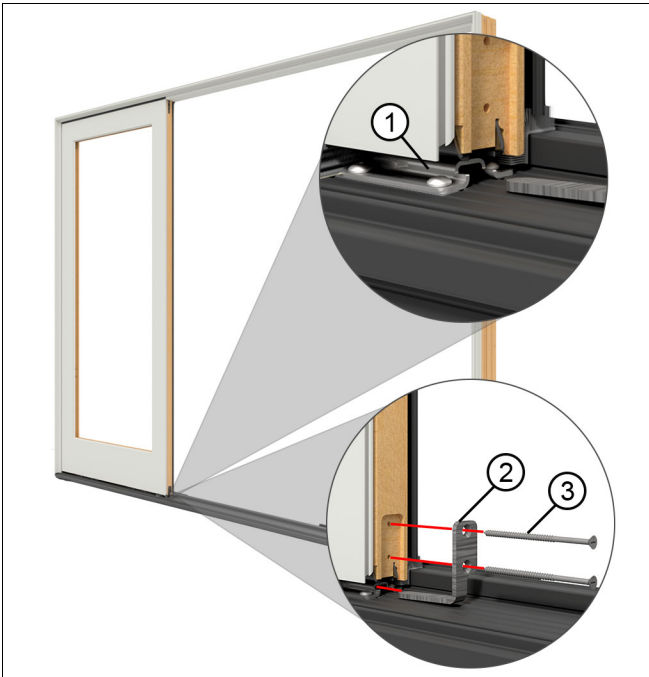

Figure 29
8. Install the sill to panel bracket. Slide the bracket under the sill bracket (attached to the sill). Then fasten to the stationary panel with #8 x 3" screws provided. See Figure 29.